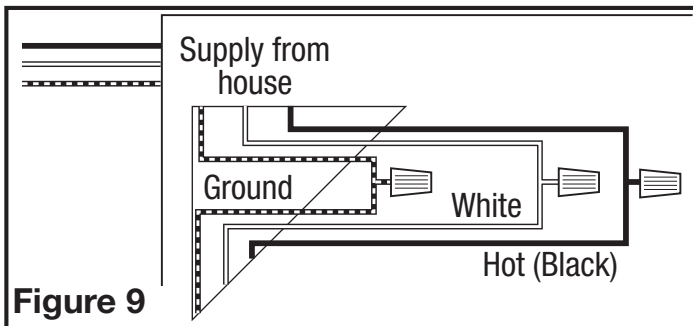

Figure 9
- 2b. From where you have chosen to access the fan's junction box, connect the White wire from the house to the White wire from the fan's receptacle. Connect the Black wire from the wall switch to the Black wire from the fan's receptacle. Connect the ground wire from the house to the Green wire from the fan's receptacle (Figure 9). Use approved methods for all connections.